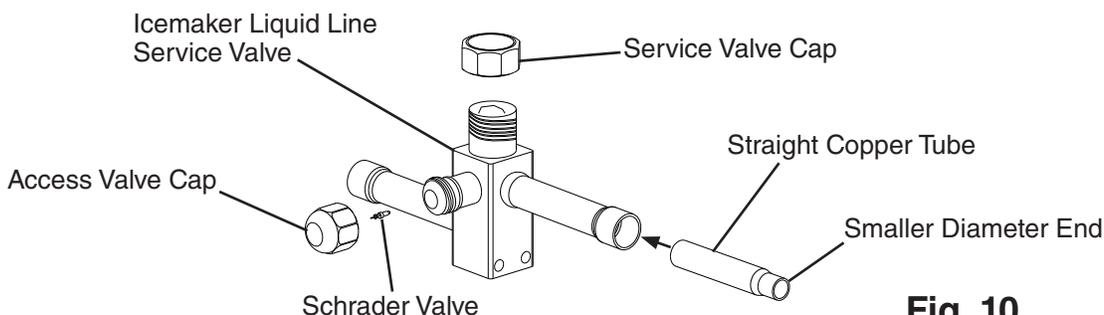

Fig. 10
- 3) Remove the Schrader valves from the icemaker service valves. Next, remove the straight copper tube from the icemaker accessory bag and place it in the icemaker liquid line service valve with the smaller end of the straight copper tube facing outward. See Fig. 10. Note: The smaller diameter must be facing outward. Next, place the liquid line copper tube into the straight copper tube.
- 6) Remove the Schrader valves from the condenser unit service valves. Next, remove the straight copper tube from the condenser unit accessory bag and place it in the condenser unit liquid line service valve with the smaller end of the straight copper tube facing outward. See Fig. 10. Note: The smaller diameter must be facing outward. Next, place the liquid line copper tube into the straight copper tube.
- 1) Remove the remote condenser unit louver panel. See Fig. 10.